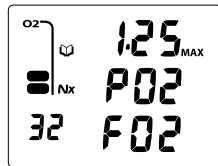

Fig. 52 - LOG DATA 3
**LOG DATA 3**, (if a Nitrox dive) information includes (Fig. 52):